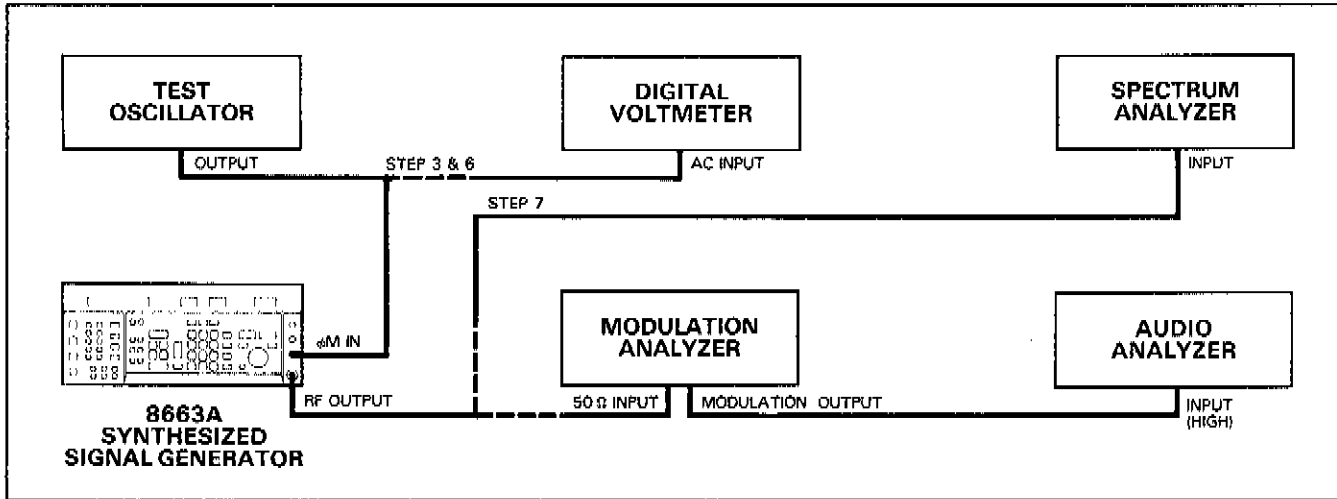

Figure 4-4. Phase Modulation Test Setup
1. Connect the equipment as shown in Figure 4-4 and apply power. Set the modulation analyzer to measure phase modulation using the 50 Hz HP FILTER and PEAK+ DETECTOR. Key in 1.745 and push the %RATIO key which will cause the display to read in degrees.
- Disconnect the cable from the modulation analyzer's input and connect the cable to the spectrum analyzer's input as shown in Figure 4-4.